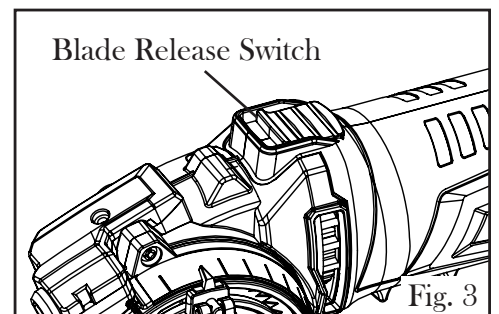

Fig. 3
4. Push the blade release switch (Fig. 3) and swing the base plate upwards. Carefully remove the existing blade.